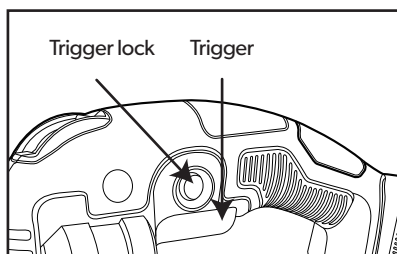

Figure 4
2. Squeeze the Trigger to turn on the jigsaw. If operating the jigsaw for an extended period of time, press the Trigger Lock to lock the Trigger in its "ON" position. See Figure 4, right.